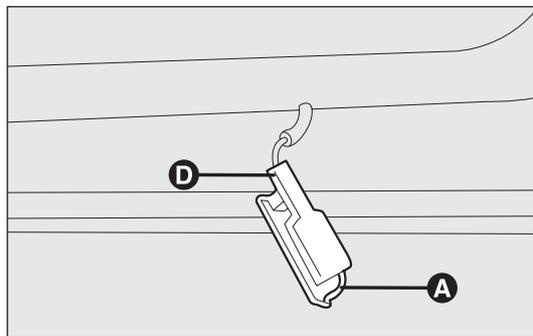

fig. 186
PUDDLE LIGHTS fig. 186
- remove the light by pressing clip A-fig. 186 with a screwdriver;
- refit the light by first inserting side D-fig. 186 and then pressing the other side until you hear the clip lock in to place.